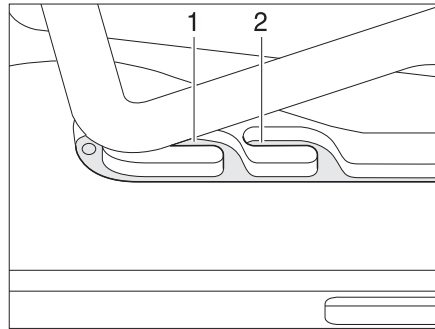
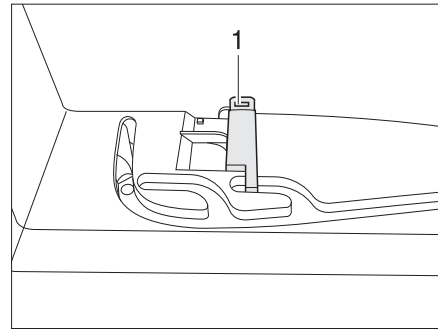

Fig. 87 Heki skylight in ventilation position
Fig. 88 Ventilation position locking mechanism
The Heki skylight can be put in two ventilation positions: Bad weather position (Fig. 87,1) and central position (Fig. 87,2). Depending on the model, the skylight can be locked in the central position with the latch (Fig. 88,1).
- Push the bar slightly upwards and into the selected guide (Fig. 87,1 or 2) and lock if necessary.